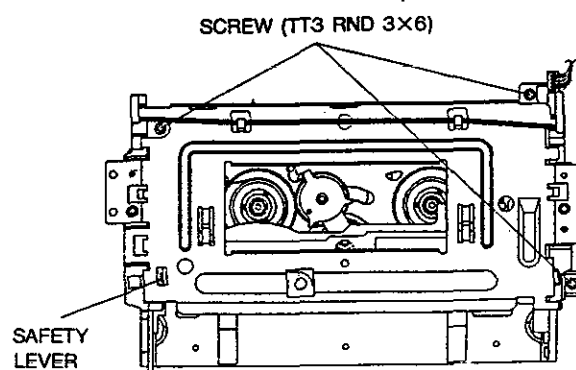

Fig. 4-7 Reference of assembly for the Front Loading AS
- 5) Make sure of the assembly state of the Front Loading Ass'y (refer to Fig. 4-7).